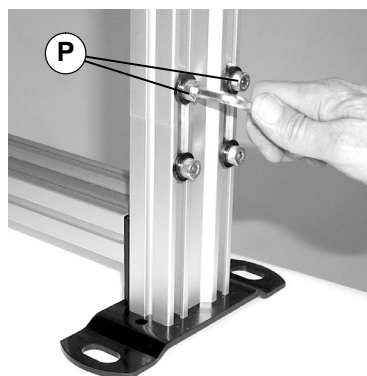

Figure 6
7. Tighten screws (P of Figure 6) to 130 in-lbs (15 Nm).